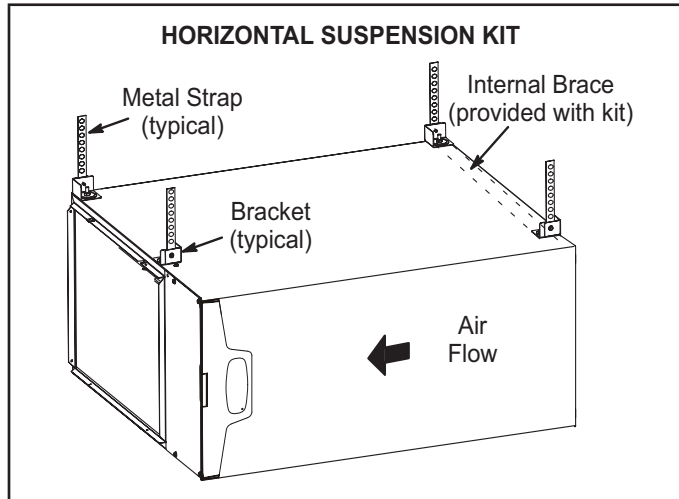
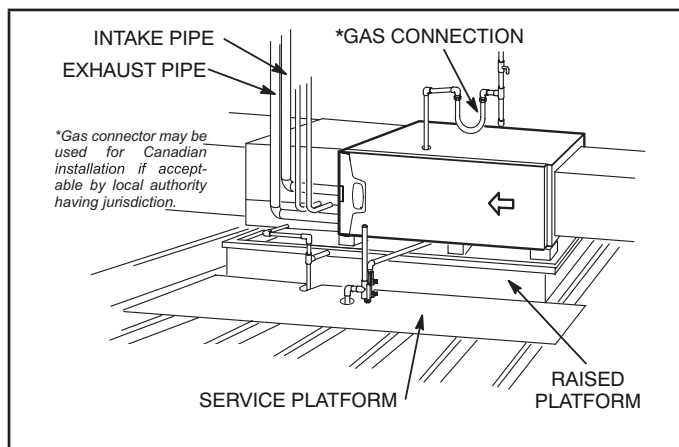

FIGURE 12
FIGURE 13
This furnace may be installed in either an attic or a crawl-space. Either suspend the furnace from roof rafters or floor joists, as shown in FIGURE 12, or install the furnace on a platform, as shown in FIGURE 13. A horizontal suspension kit (51W10) may be ordered from Lennox or use equivalent.
- 2 - Construct a raised wooden frame and cover frame with a plywood sheet. If unit is installed above finished space, fabricate an auxiliary drain pan to be installed under unit. Set unit in drain pan as shown in FIGURE 13. Leave 8 inches for service clearance below unit for condensate trap.